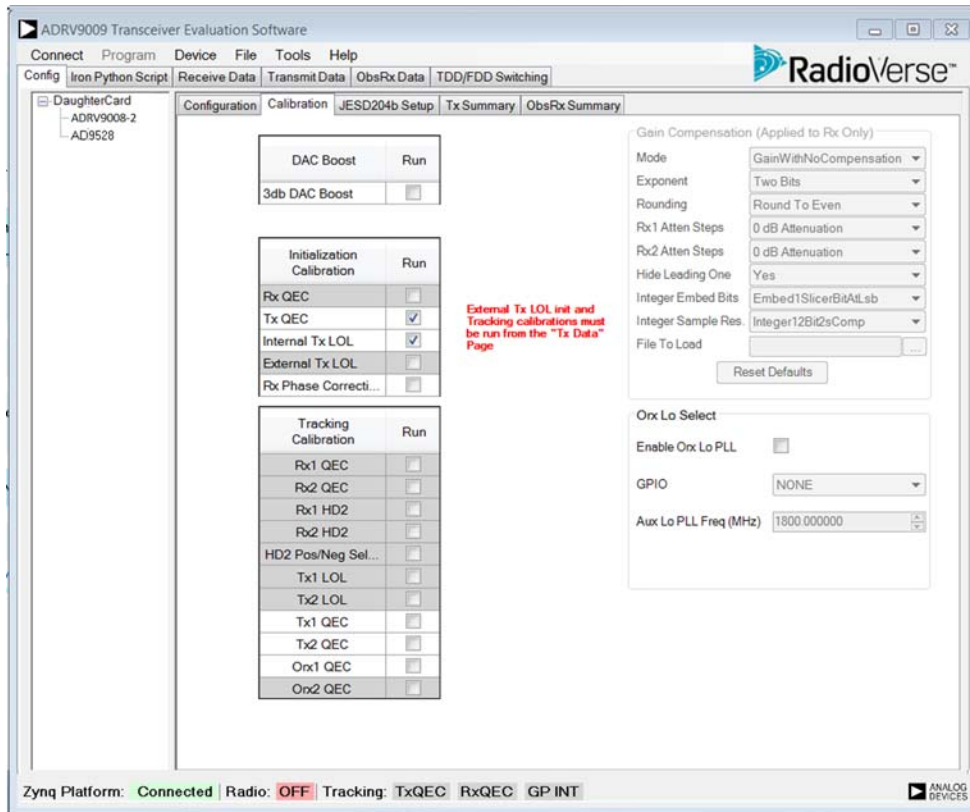

Figure 20. Calibration Configuration Tab for the ADRV9008-2
The ADRV9008-1, ADRV9008-2, and ADRV9009 are direct conversion transceivers. One drawback of the direct conversion technique is that the transmitter baseband dc offset and direct coupling of the local oscillator to the transmitter output can cause an undesired continuous wave (CW) emission at the transmitter local oscillator (LO) frequency. The purpose of the transmitter LO leakage (LOL) calibration is to minimize this CW emission. The ADRV9008-1, ADRV9008-2, and ADRV9009 evaluation system supports two types of transmitter LOL calibration algorithms. The user can select calibration algorithms using the tick boxes shown in the Figure 20.
The second user configurable tab is the **Calibration** tab. The **Calibration** tab enables the initialization and tracking calibrations. Figure 20 shows a configuration example. The user can enable or disable initialization calibrations, as well as tracking calibrations. The initial calibrations, transmitter quadrature error correction (QEC) and internal transmitter LOL, along with the Transmitter 2 LOL, Transmitter 2 QEC, Observation Receiver 1 QEC, and Observation Receiver 2 QEC tracking calibrations can be enabled for the ADRV9008-2 device. The user can also enable 3 dB DAC